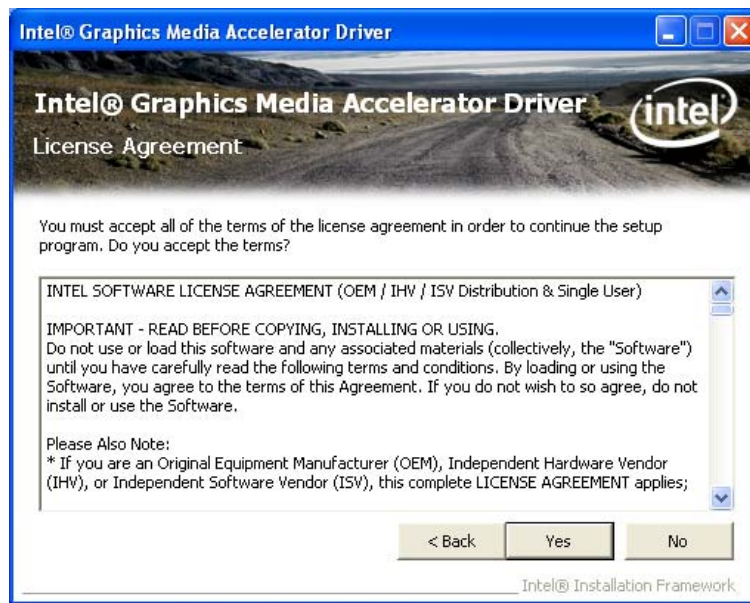

Figure 7-11: VGA Driver License Agreement
- Step 7:** The license agreement in **Figure 7-11** appears.